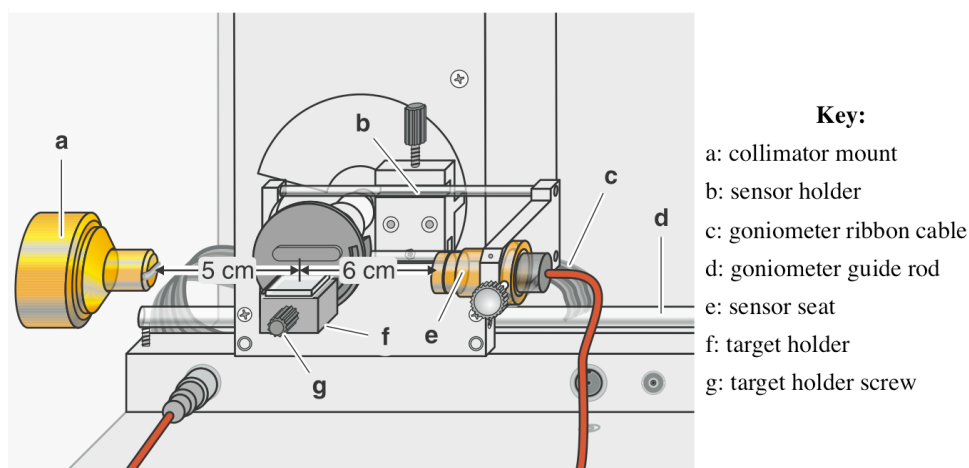

Figure 3: Experiment set-up for the Bragg-scattering x-ray monochromator.
- 1) In sensor mode, the mount holding the target crystal (f in Figure 3) is held fixed while the sensor (the counter tube, e) is rotated around it.
For these experiments, the coupled mode is used. However this only works if the zero angle condition has been set accurately: when the goniometer is driven to zero, the collimator slit, the target crystal and the detector should all line up as in Figure 3. If this is not the case you should consult the technician.